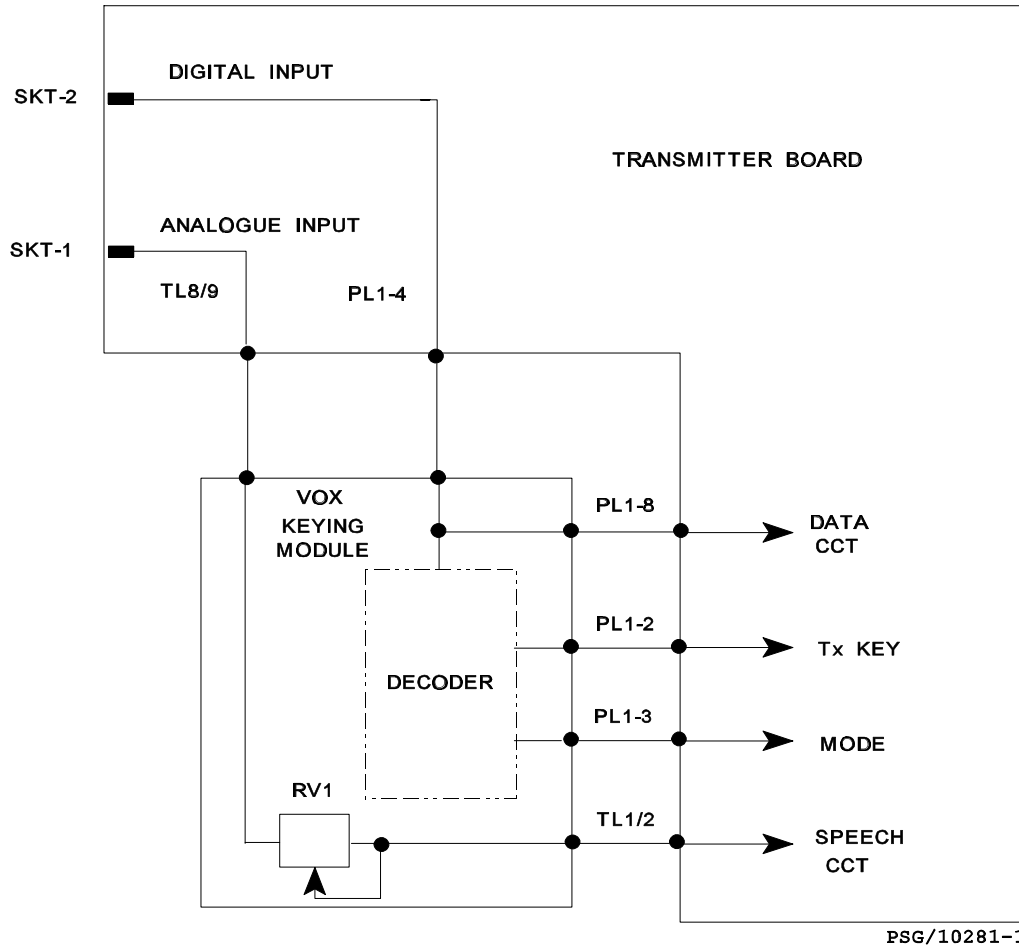

Figure 2: Module Interconnection Diagram
17. The VOX keying module decodes encoder presented serial data and controls the transmitter. Interconnection between the Transmitter PCB and VOX Keying PCB is as shown in Figure 2.